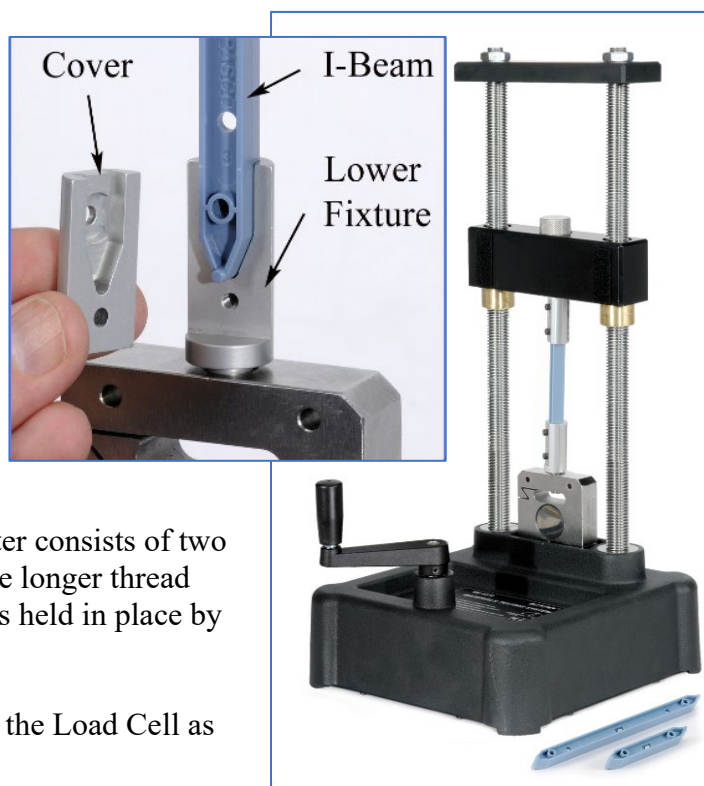

Figure 1: Compressing I-beams
3. The lower fixture screws directly into the Load Cell as shown in the inset to Figure 1.